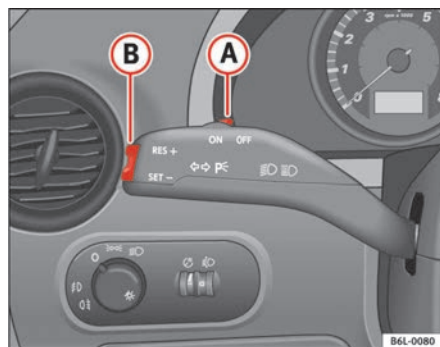

Fig. 108 Turn signal and main beam headlight lever switch and rocker switch for the cruise control
- Press the upper part **RES** of the rocker switch ⇒ fig. 108 **(B)** to increase the speed. The vehicle will continue to accelerate for as long as you keep the rocker switch pressed. When you release the switch, the new speed is stored.
Control of the set speed is switched off if you reduce speed by depressing the brake pedal. Reactivate the control by pressing once on the upper part of the rocker switch **RES+** ⇒ fig. 108 **(B)**.